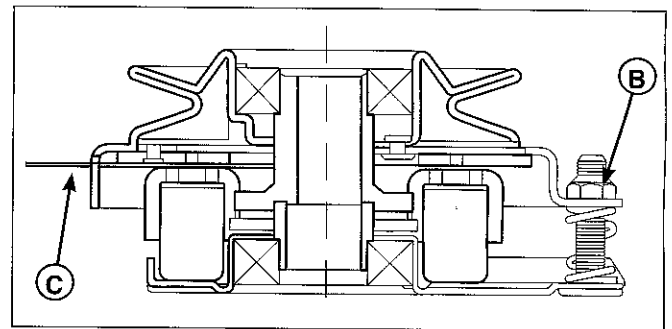

Figure 47. Adjust PTO Clutch
4. Alternately tighten the adjustment nuts (B, Figure 47) until the rotor face and armature face just contacts the gauge.
6. Check the mower blade stopping time. See **BLADE BRAKE CHECK**. The mower blades and mower drive belt should come to a complete stop within seven (7) seconds after the electric PTO switch is turned off.